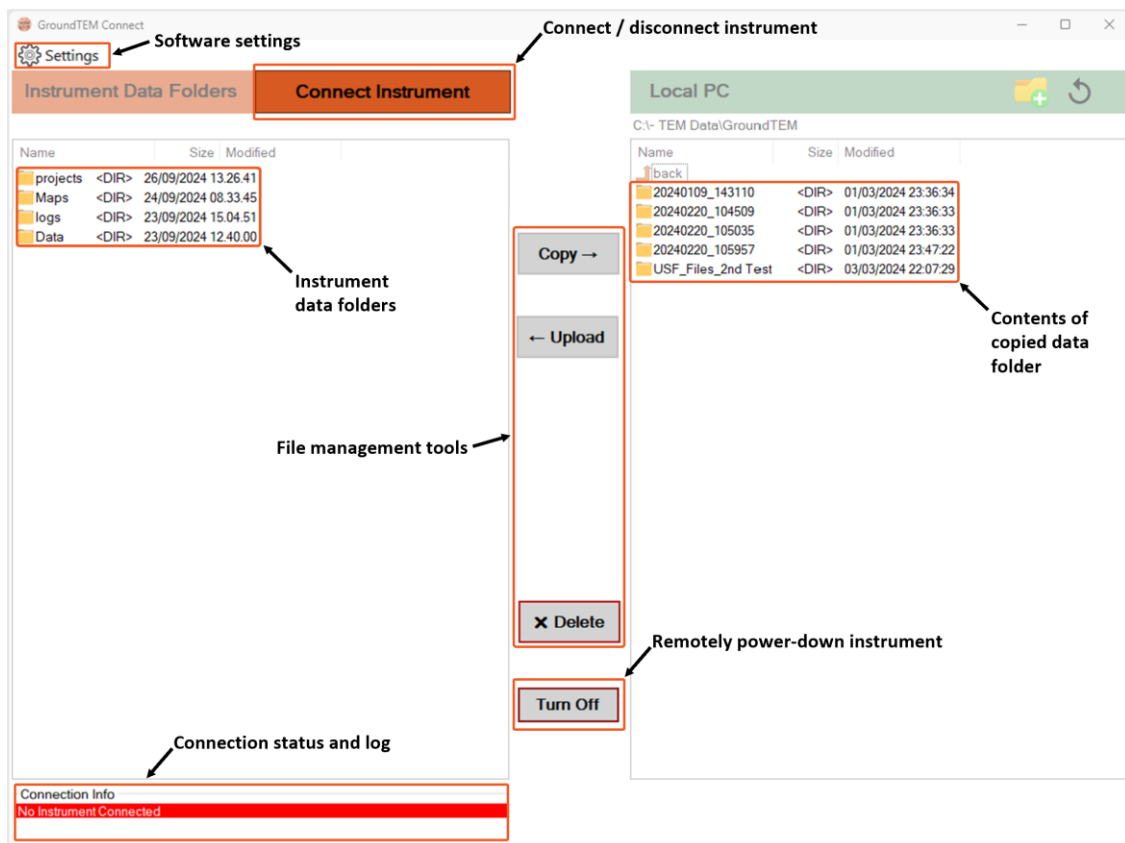

Figure 21. GroundTEM Connect for copying data from GroundTEM Ralli unit and/or upload background maps.
See Download data from GroundTEM Ralli unit section and Figure 21 for more information on how to upload the created files.
- Press *Connect to Instrument* to display the data folders on the GroundTEM Ralli instrument (Figure 21).